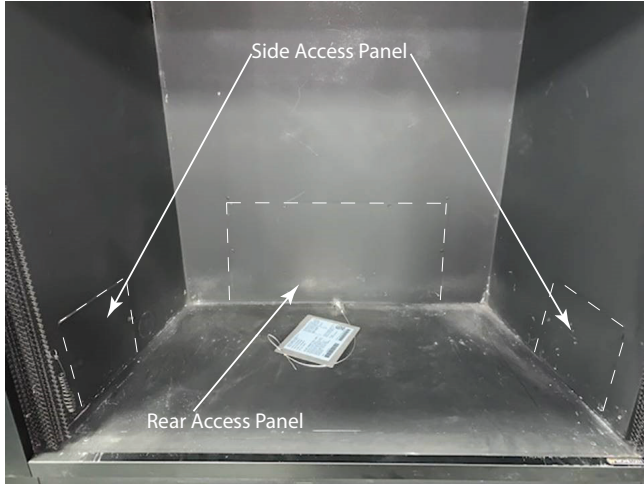

Figure 19
3. Remove rear and side access panels. See Figure 19.